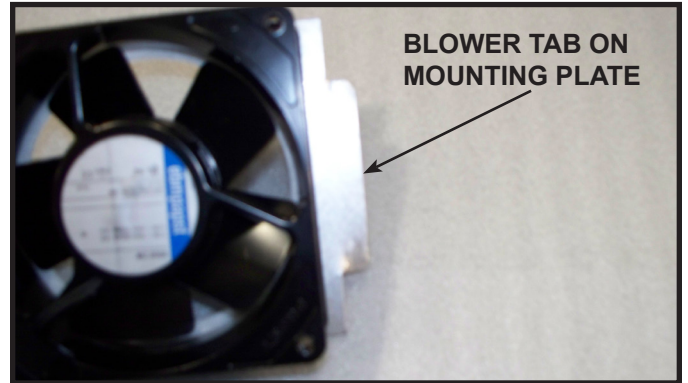
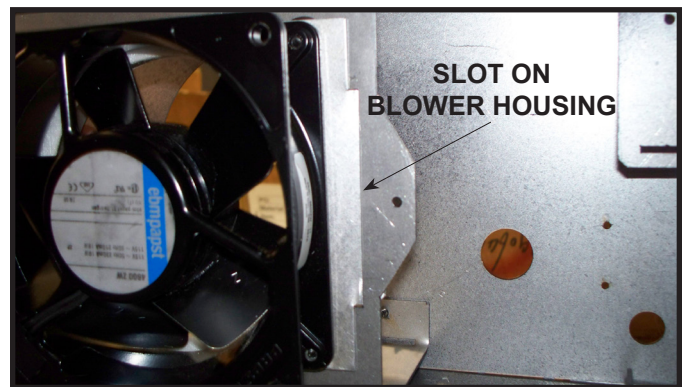

Figure 12.14 Blower Tab Toward Rear
Figure 12.15 Blower Tab Inserted into Slot on Blower Housing
- To install new blower back into appliance, reverse the removal procedure. Install blower assembly with the tab toward the rear of the appliance. See Figure 12.14. This tab must insert into slot on blower housing inside the appliance as shown in Figure 12.15.